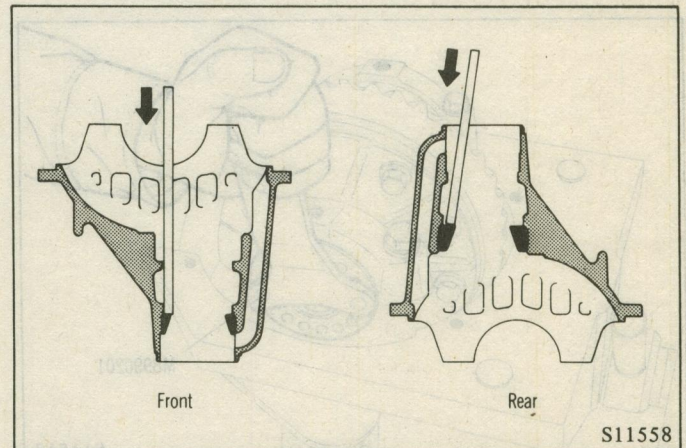

Fig. 25 Removing the Outer Race of Drive Pinion Bearing (Front and Rear)
(4) Remove the drive pinion bearing (front and rear) outer race. In case of drive pinion bearing (front) outer race, remove oil seal at the same time. (Fig. 25)